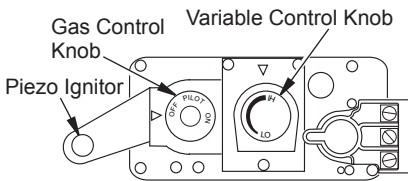

Figure 44 - Control Valve
- Turn gas control knob counterclockwise  to "PILOT". (see Figure 44)
- Push in gas control knob all the way and hold. Immediately light the pilot by repeatedly depressing the piezo spark ignitor until a flame appears. Continue to hold for about one (1) minute after the pilot is lit. Release gas control knob and it will pop back. Pilot should remain lit. If it goes out, repeat steps 5 through 8.